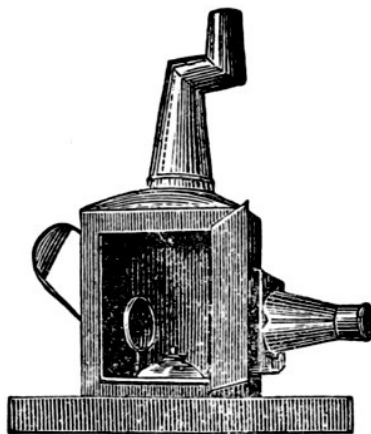

Fig. 1.
The verse is then repeated to the second part of the tune, the player jumping to each figure *before* it is mentioned, and giving a second jump on it, before going to the next. The last line finishes off with a wild repetition of the figure, the player stepping from one figure to the next as fast as he can, finishing on No. 7 to the last word. The player must place both feet on Fig. 7 to the words 'and they,' then the right on Fig. 1, and so on, to the last one. The great difficulty in the last line is to get the left foot from Fig. 4 to Fig. 6 in time. This is done by passing the right foot *behind* the left, when moving it from Fig. 3 to Fig. 5, which will enable the player to finish without tying his legs in a knot. The words and the numbers of the figures for the player to jump to are here given (commencing on No. 7 and facing Fig. 6)—
1. There was a crooked (jump to Fig. 1 to the word) *man*,
2. There (jump to Fig. 1) was a crooked (2nd jump on Fig. 1) *man*,
(Step to Fig. 7, left foot) And they (right to Fig. 1 to word) all (left to Fig. 2) lived (right to Fig. 3 to) together (left to Fig. 4 to) in a (right behind left to Fig. 5) little (left to Fig. 6) crooked (both feet to Fig. 7) *house*.
First, then, let us deal with the lanterns illuminated by a lamp burning colza or sperm oil. Of these lanterns there are two subdivisions, those whose condensing lenses are of a size suitable for exhibiting the standard slides (slides three and a quarter inches in diameter), called phantasmagoria lanterns, and lanterns of a smaller size, which may be described as toys, and for which but a very limited variety of slides can be obtained. We give an illustration (Fig. 1) of one of these small lanterns, from which it will be seen that the lamp is of very simple construction, and provided with a silvered reflector behind it. Magic-lanterns, the condensing lenses of which are from one and a half inch to two and a half inches in diameter, are calculated to produce discs of light from four feet to six feet in diameter. Such discs are usually obtained when the distance of the lantern from the screen is about one-third more than the desired diameter of the disc. Lanterns such as these are described, according to their size, by number, and include all from Nos. 1 to 6.